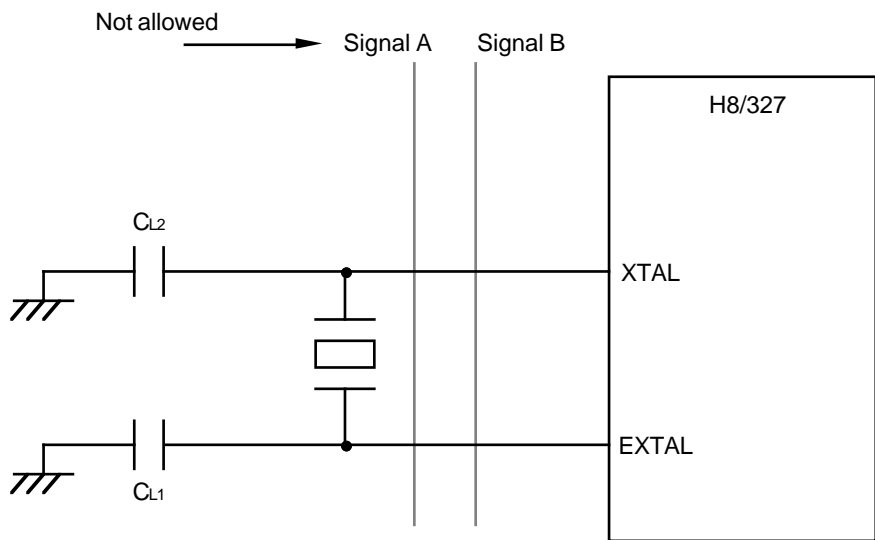

Figure 13-4. Notes on Board Design around External Crystal
③ **Note on Board Design:** When an external crystal is connected, other signal lines should be kept away from the crystal circuit to prevent induction from interfering with correct oscillation. See figure 13-4. The crystal and its load capacitors should be placed as close as possible to the XTAL and EXTAL pins.